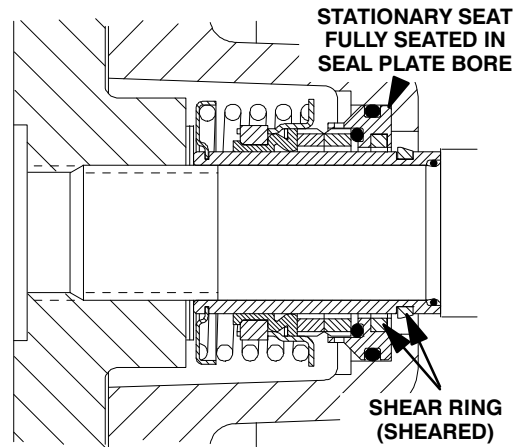

Figure 11. Seal Fully Installed
As the stationary seat becomes fully seated, the seal spring compresses, and the shaft sleeve will break the nylon shear ring. This allows the sleeve to slide down the shaft until seated against the shaft shoulder. Continue to screw the impeller onto the shaft until the impeller, shims, and sleeve are fully seated against the shaft shoulder (see Figure 11).
When properly installed to the dimension shown in Figure 11, the key (23A, Figure 4) **will not** extend fully through the bushing. This is an acceptable fit for this application.